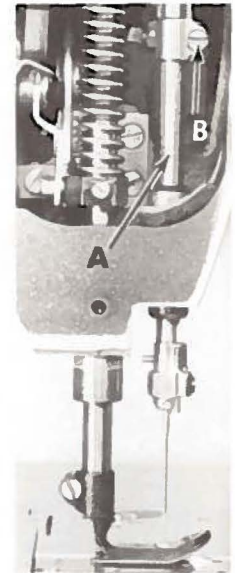

Fig. 4
Insert a new set of needles (Type and Size as required) and align the needle bar so that the needles correspond with the vertical face of the needle guard. To turn needle bar (A, Fig. 4), loosen needle bar clamp screw (B) and turn bar as required. Tighten clamp screw.